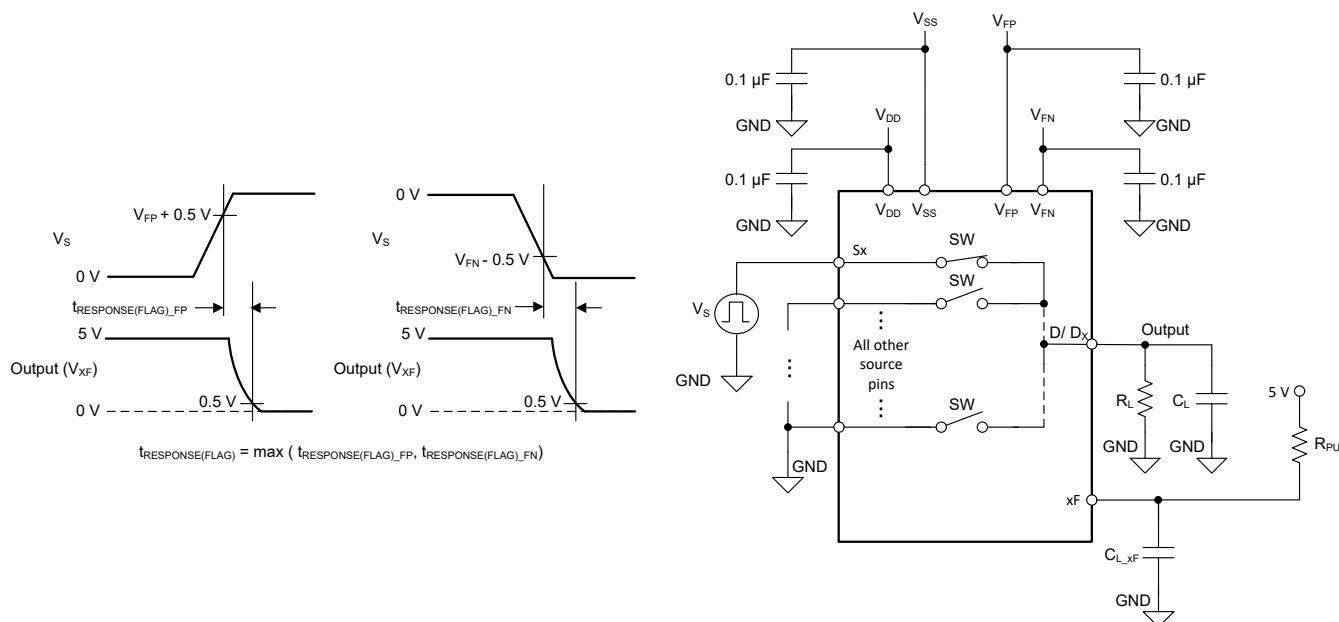

Figure 6-11. Fault Flag Response Time Measurement Setup
Fault flag response time ( $t_{\text{RESPONSE(FLAG)}}$ ) measures the delay between the source voltage exceeding the fault supply voltage ( $V_{\text{FP}}$  or  $V_{\text{FN}}$ ) by 0.5V and the general fault flag (FF) pin or specific fault flag (SF) pin to go below 10% of its original value. Figure 6-11 shows the setup used to measure  $t_{\text{RESPONSE(FLAG)}}$ .